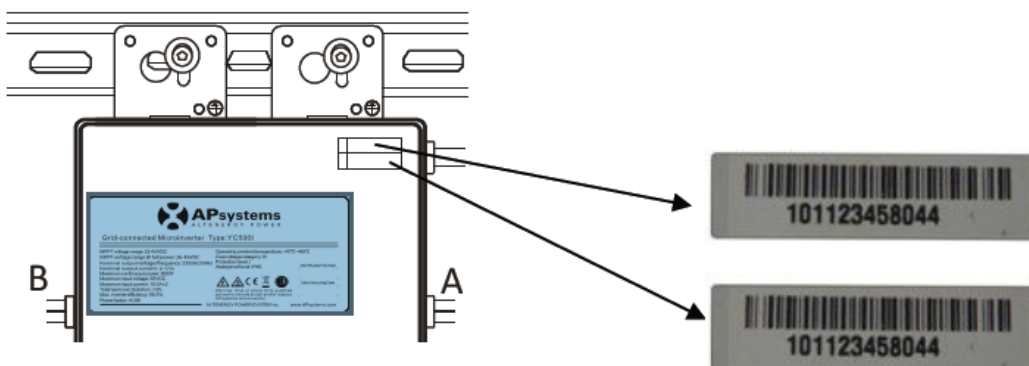

Figure 11
- a) Fill in the APsystems Registration Cards, which provide system information and the installation map. Feel free to provide your own layout if a larger or more intricate installation map is required. The layout map provided is designed to accommodate labels in vertical or horizontal orientation to meet all the field PV connections. Each APsystems Microinverter has removable serial number labels. Peel labels off, affix one to the respective location on the APsystems installation map, and fill in A,B in the label below (figure 11) according to the layout on the roof. Then affix another label to the PV module frame which is easy to see. The warranty cards can be obtain from the appendix of this manual or APsystems website [www.APsystems.com](http://www.APsystems.com)